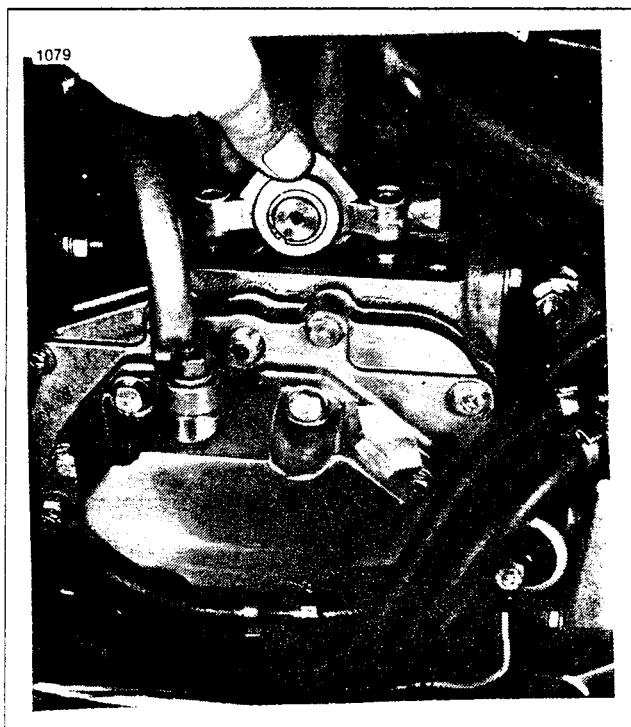

Figure 8. Shifter Cam Locating Dowel Pin
9. See Figure 8. Place shifter cam assembly on transmission case with shifter forks positioned in the slots. The transmission case has dowel pins which fit into the mounting holes of the right support block. Align the cam assembly by securing the right support block and tighten all bolts to 7-9 ft-lbs torque. Check the left support block to see that it is not cocked and does not bind on its bearing.